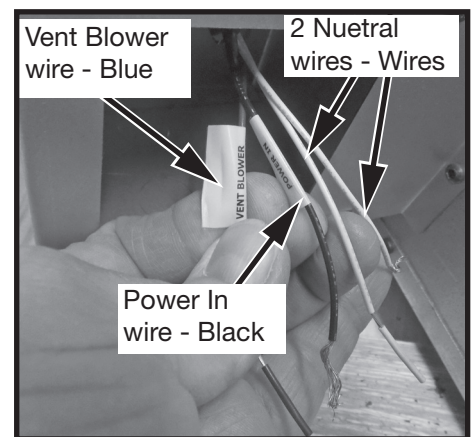
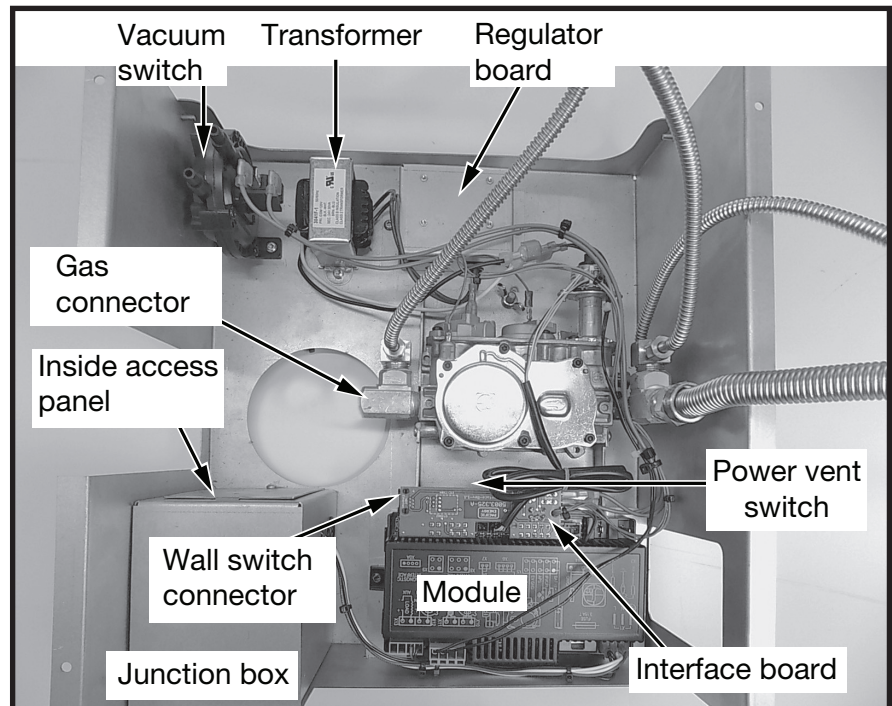
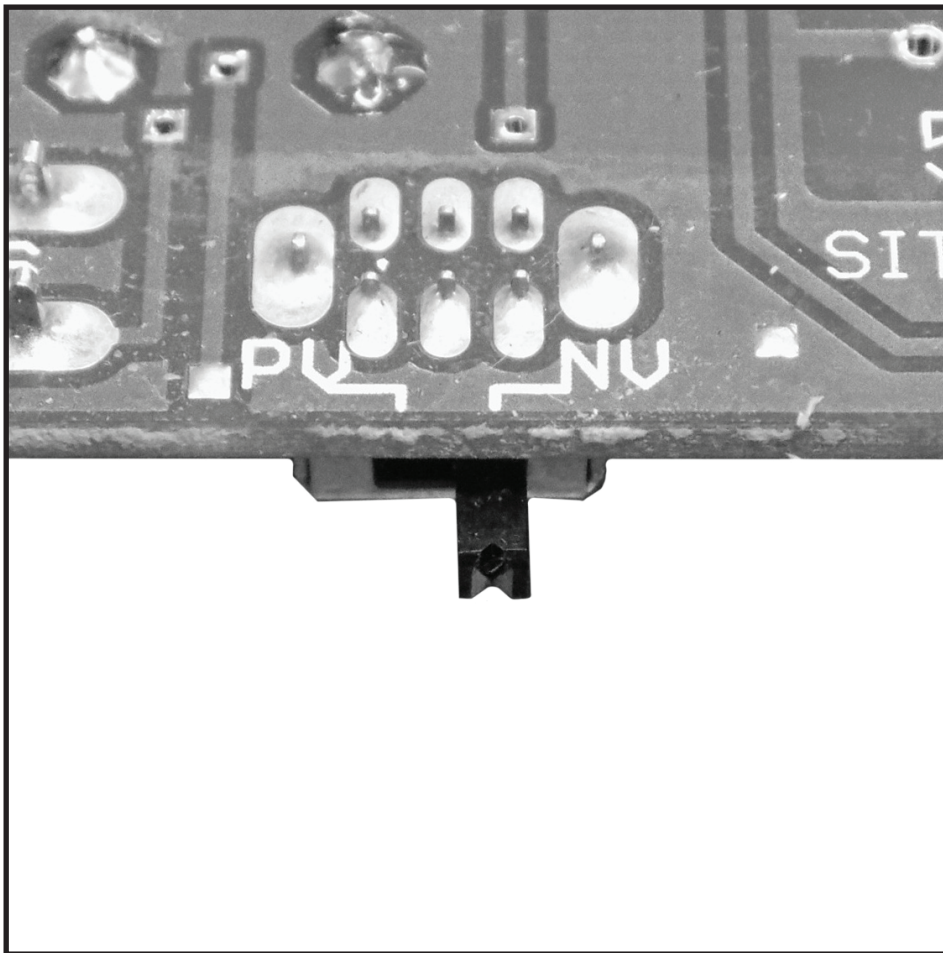

Figure 23: Junction box wiring.
Figure 24: Valve assembly components.
Figure 28: Natural vent - Power vent switch.
4. Connect 110 V. AC electrical supply to the wires installed inside the junction box - (Figure 23). The fireplace is rated at 110 volts, 60Hz, 0.25A. The optional power vent kit is rated at 115 volts, 60Hz, 1.8A.
The electrical wires can be accessed from both inside and outside the junction box by removing one of the two small access panels (Figure 23) & (Figure 24).
7. Attach one end of the wall switch control cable to the wall control. (Figure 27) , and the other end to the interface board (Figure 24).
The NV / PV (Natural Vent / Power Vent) switch (Figure 28) on the interface board (Figure 24) is set according to which type of evacuating vent system is present. If the fireplace is vented without the assistance of a power vent, the switch should be set to “NV”. If using a power vent, “PV” should be selected. Follow the instructions provided with the power vent kit for proper installation.
- Connect the gas supply to the gas connector (Figure 24).